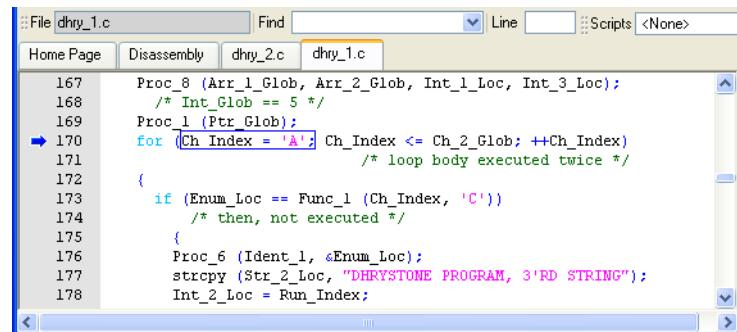

Figure 10-7 Scoped to a Call Stack entry
- A blue arrow and blue box shows the location of the scope. Figure 10-7 shows an example: